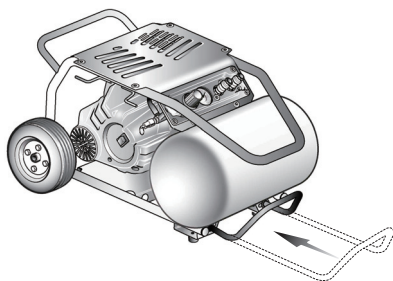

Fig. 9
- Ensure the compressor is positioned as shown and that the telescopic handle is not extended. (Fig. 9)